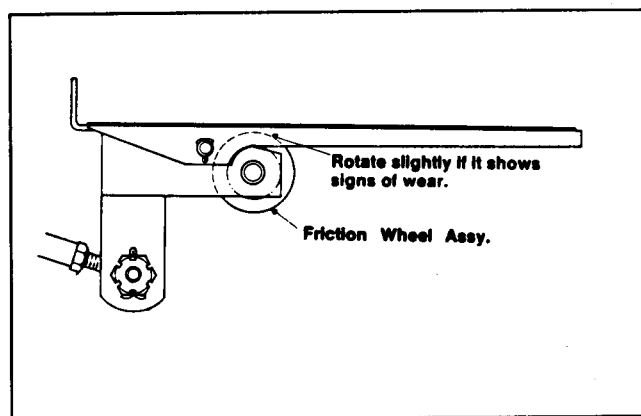

Figure 20
2. Rotate the shaft to relocate the worn surface of the friction wheel away from the underside of the traction pedal (Fig. 20).